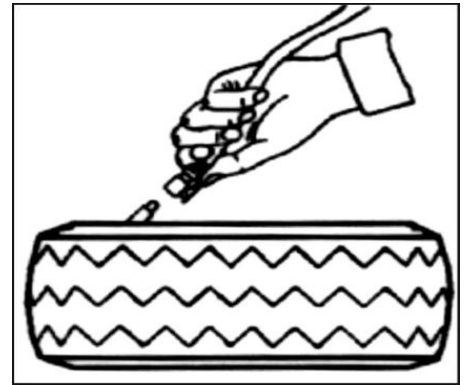

FIG28
2. Connect the inflation hose with the tire air core. See FIG28.